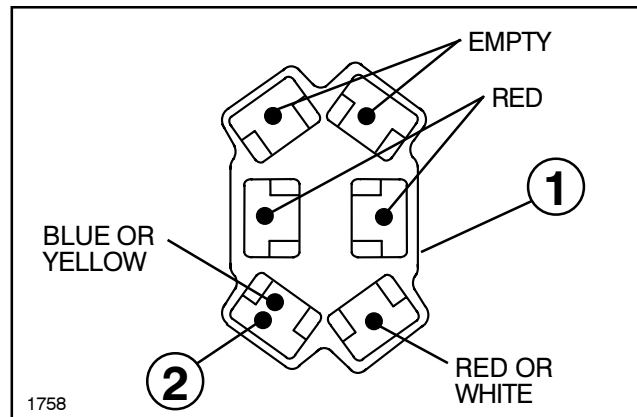

Fig. 15
9. Using the Harness Extension, plug the 1/4" spade Terminals into the main Foam Marker Harness Plug Connector. Plug the Red Leads into the center sockets as shown in Fig. 15. Insert the White Lead into the corner socket with the Red or White wire. Plug the Remaining Yellow w/Blue Stripe wire into the other corner socket, (this socket will have a Blue or Yellow wire). Repeat this step for the other Plug. Connect the Connector Housing to their respective switches in Spray Control Panel (Yellow to L. H. Switch & Blue to R. H. Switch).